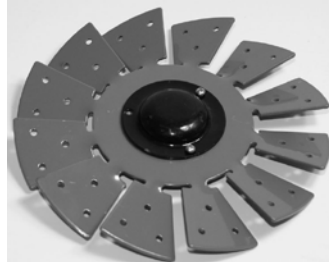

Figure 5
NOTE: The screw holes in the Center Wheel (D) are threaded, and no nuts are provided to secure the elements together on the backside of the Center Wheel (D). See Figure 5.